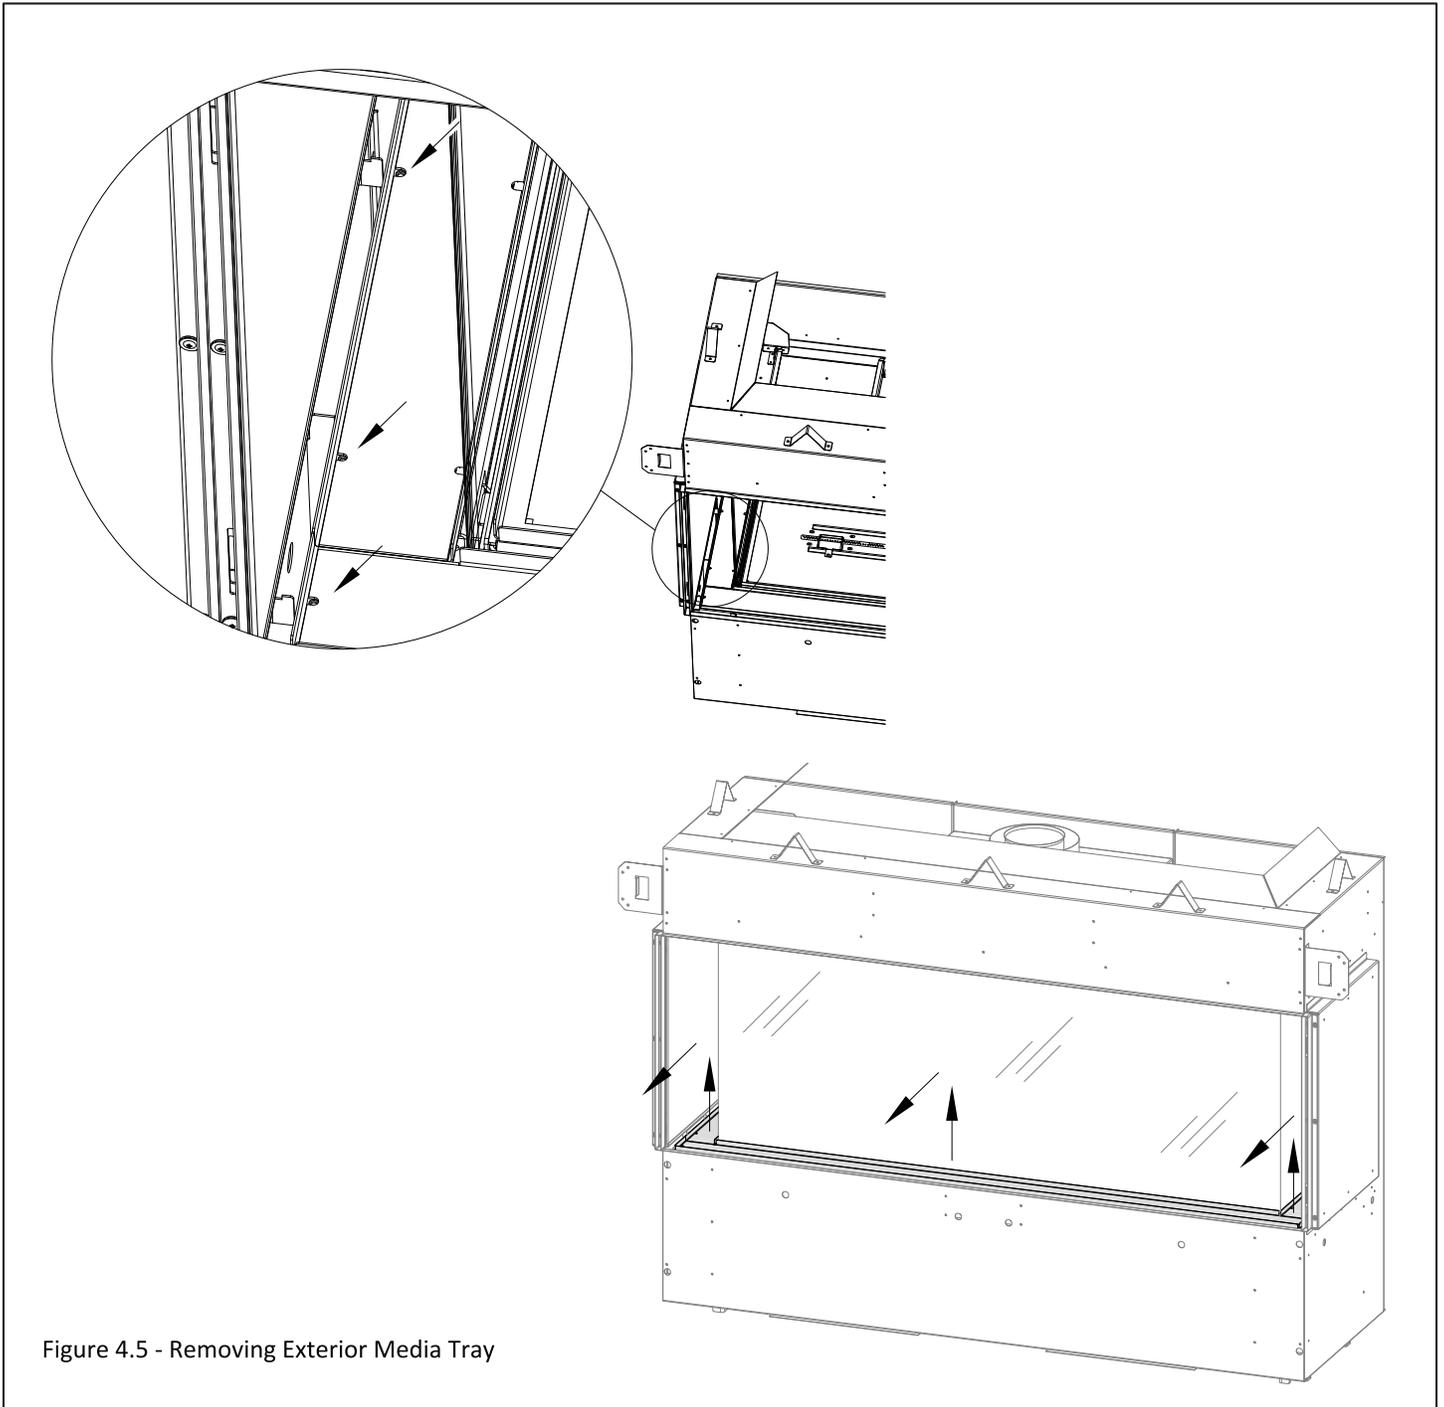

Figure 4.5 - Removing Exterior Media Tray
1. After the safety glass barrier is removed locate the (3) sheet metal screws that secure each side media tray and the front media tray. See Figure 4.5.
2. After removing the sheet metal screws you can lift up and remove the media trays. See Figure 4.5. Install in reverse order.
1. Remove the exterior media tray by lifting it up and out of the slot it is installed. See Figure 4.5.